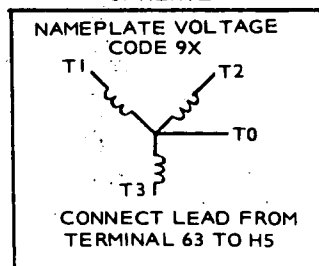
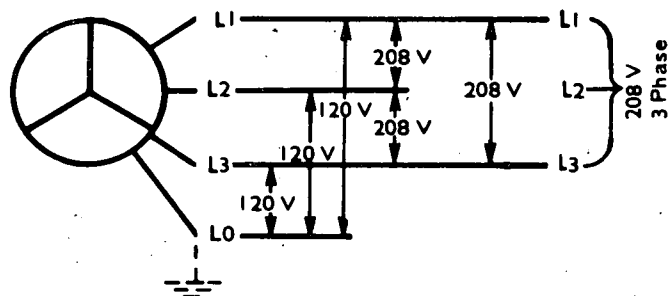

FIGURE 13. VOLTAGE CONNECTIONS
FIGURE 17. 3 PHASE, WYE CONNECTION, 12 LEAD
2. Connect wires together as shown on panel and in Figure 13 according to voltage desired.
Figure 17 shows load connections for 120/208 voltage. Other voltages are available from either parallel wye or series wye illustration in Figure 13.